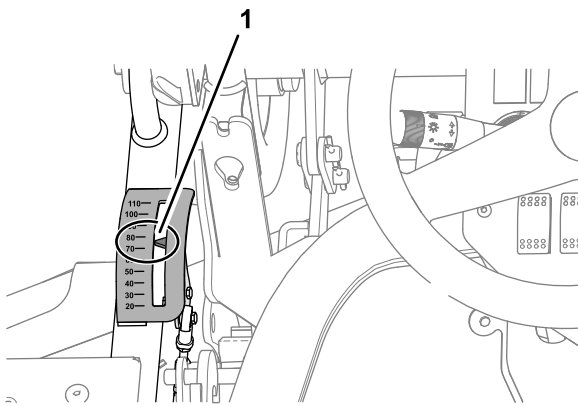

Figure 124
1. Adjust the height of cut to the 75 mm (3 inches) position (Figure 124).